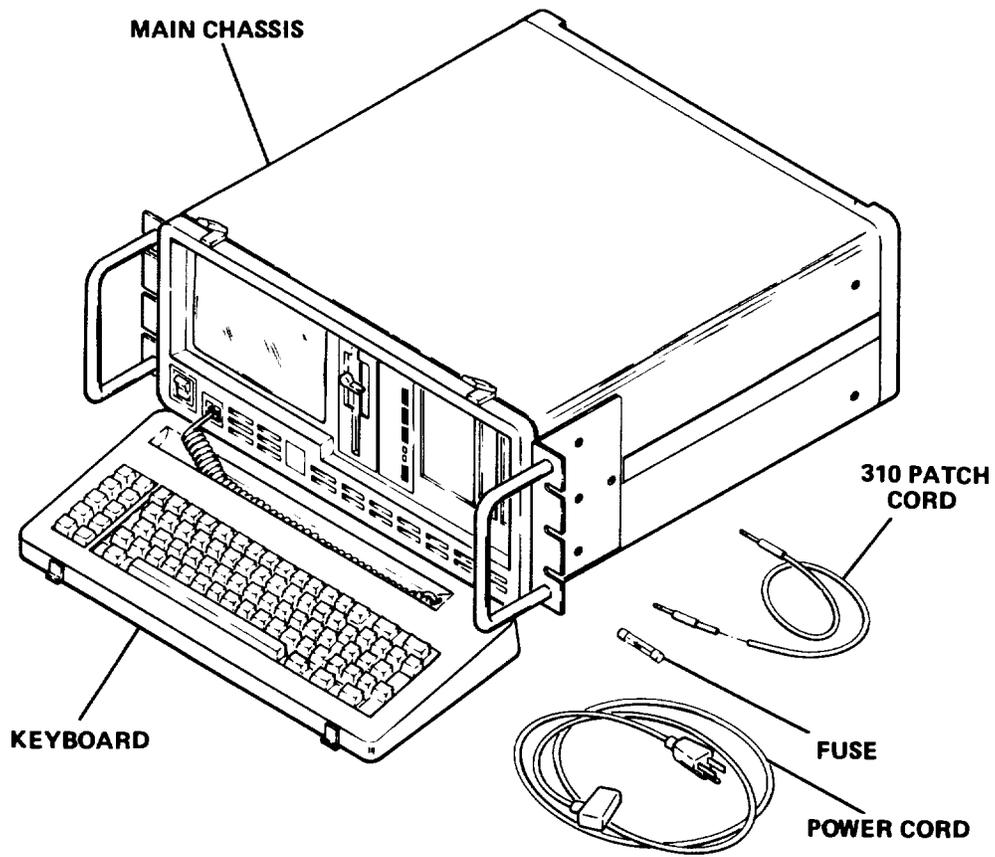

Figure 1-1. Transmission Test Set AN/USM-608
This manual describes the Transmission Test Set, AN/USM-608 (test set), and gives instructions for operation. The test set (fig. 1-1) is a combined Transmission Impairment Measurement Set (TIMS) and Return Loss (RL) tester designed to test telecommunications networks.